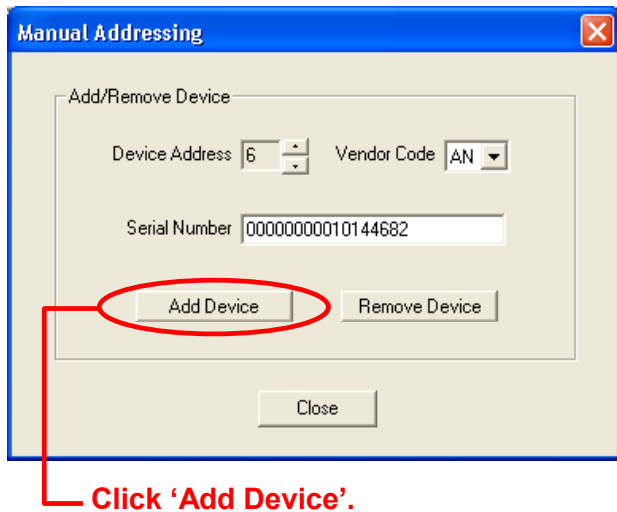

Figure 4-11. Adding Device to New Address.
If the suggested address is acceptable, click 'Add Device' and proceed to Step 8 (Figure 4-11).
7. Click 'Add Device' (Figure 4-11).